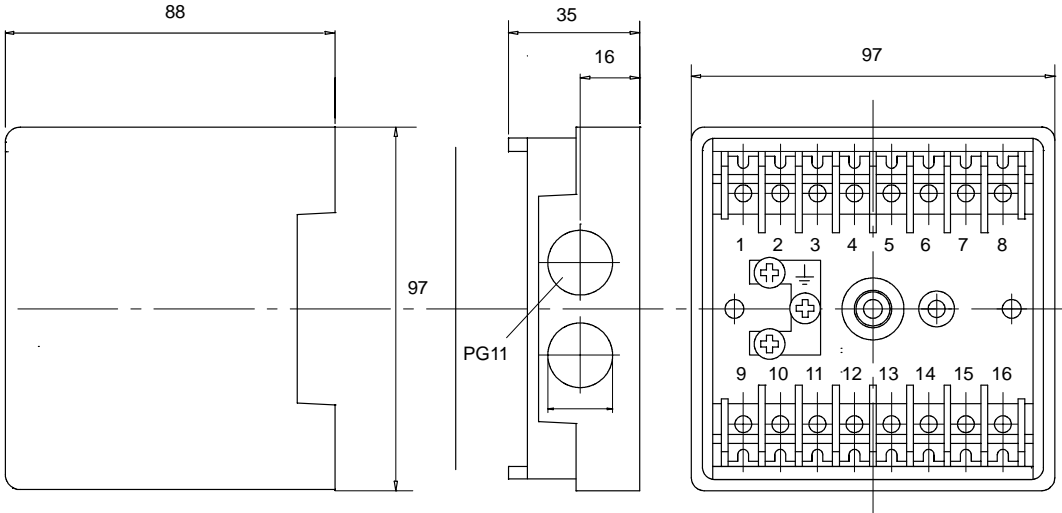

Fig. 6. Mounting dimensions of A4021A and subbase in millimeters
Refer to Fig. 6.
The subbase can be assembled by 2 screws on a panel. The cover can be removed by loosening one screw. For mounting hole dimensions see Fig. 6. installation drawing.
NOTE: For installation dimensions, see Fig. 6.
2. Wiring connections for the A4021A are unique, therefore, refer to Table 2. and Fig. 6. for proper subbase wiring.